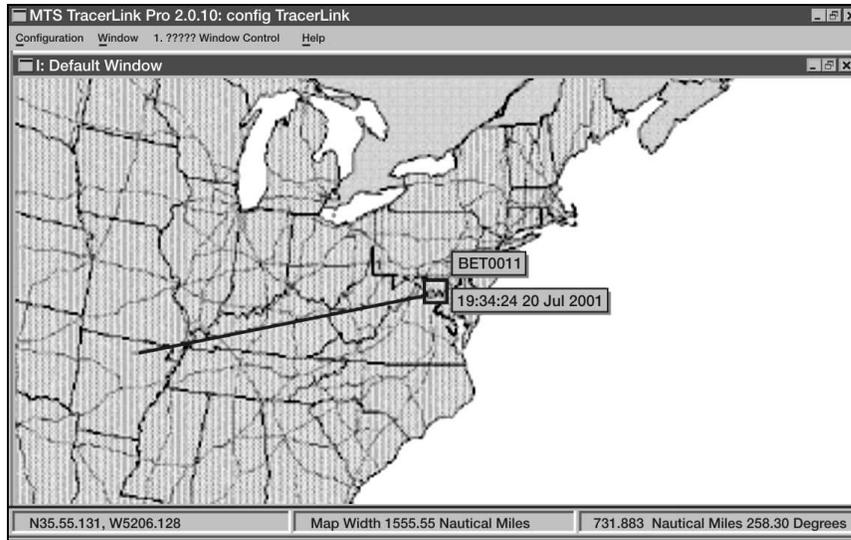

Figure 3-110. Map Showing Distances Function
- (5) Pan a Map (Move). Right click the mouse over the map to pop up the menu, select Move. The cursor becomes a hand. Click on the map and hold down the left mouse button, then drag the map to the desired position. When you release the mouse, the map will redraw in the new position.
- (6) Measure Distance on a Map. Right click on the map and then select Measure. Click and drag the cursor from point A to point B on the map. Before releasing the button, look at the scale display at the bottom of the map window. It displays the distance in kilometers, nautical miles, or statute miles (see Figure 3-110). Once you release the mouse, the distance measurement will disappear.
- (7) Reset Map to Initial View. Right click on the map and select Reset.